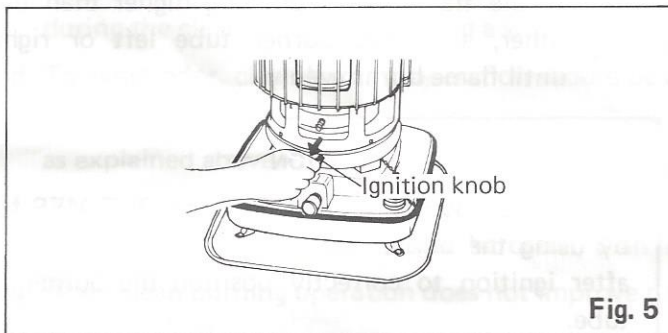

Fig. 5
2. Pull and hold the ignition knob for 2 to 5 seconds. The heater will light automatically. (Fig. 5)